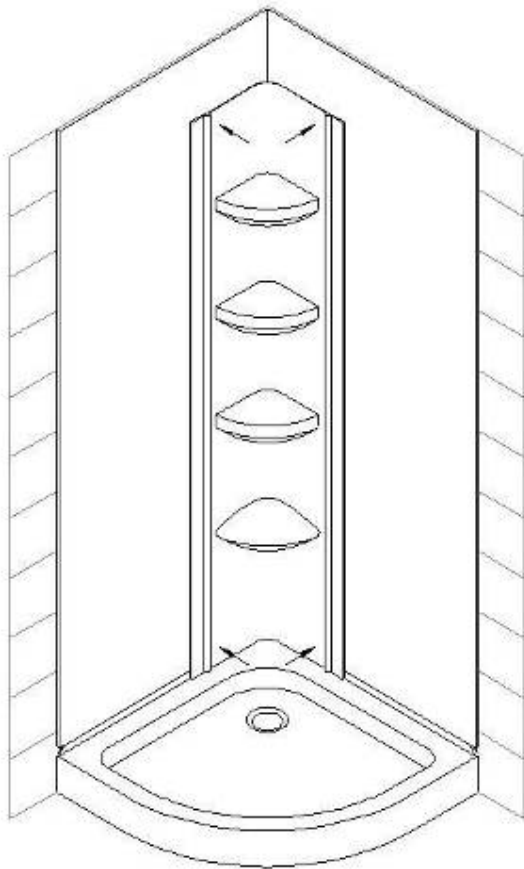

Fig 3
3. Place the panel in position and apply pressure to the complete surface top to bottom to ensure good overall contact (Fig 3).